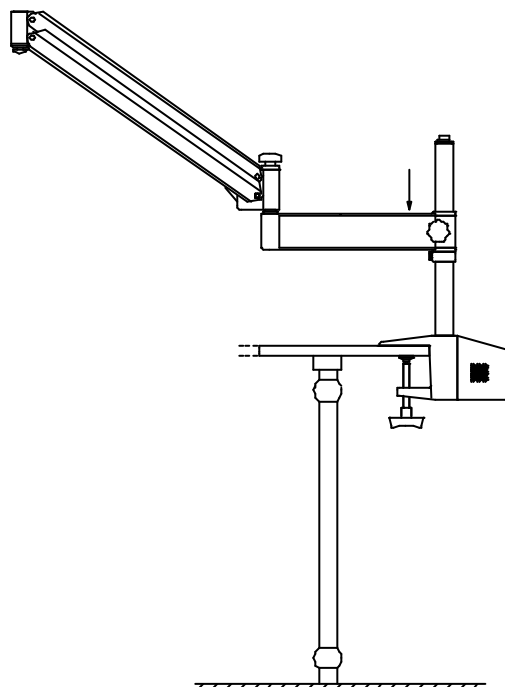

Figure 5 Assembling the arm
4. Remove the articulated arm assembly from the case, and place it on the vertical pillar. Make sure that the arm assembly rests against the pillar safety clamp. Refer to figure 5.